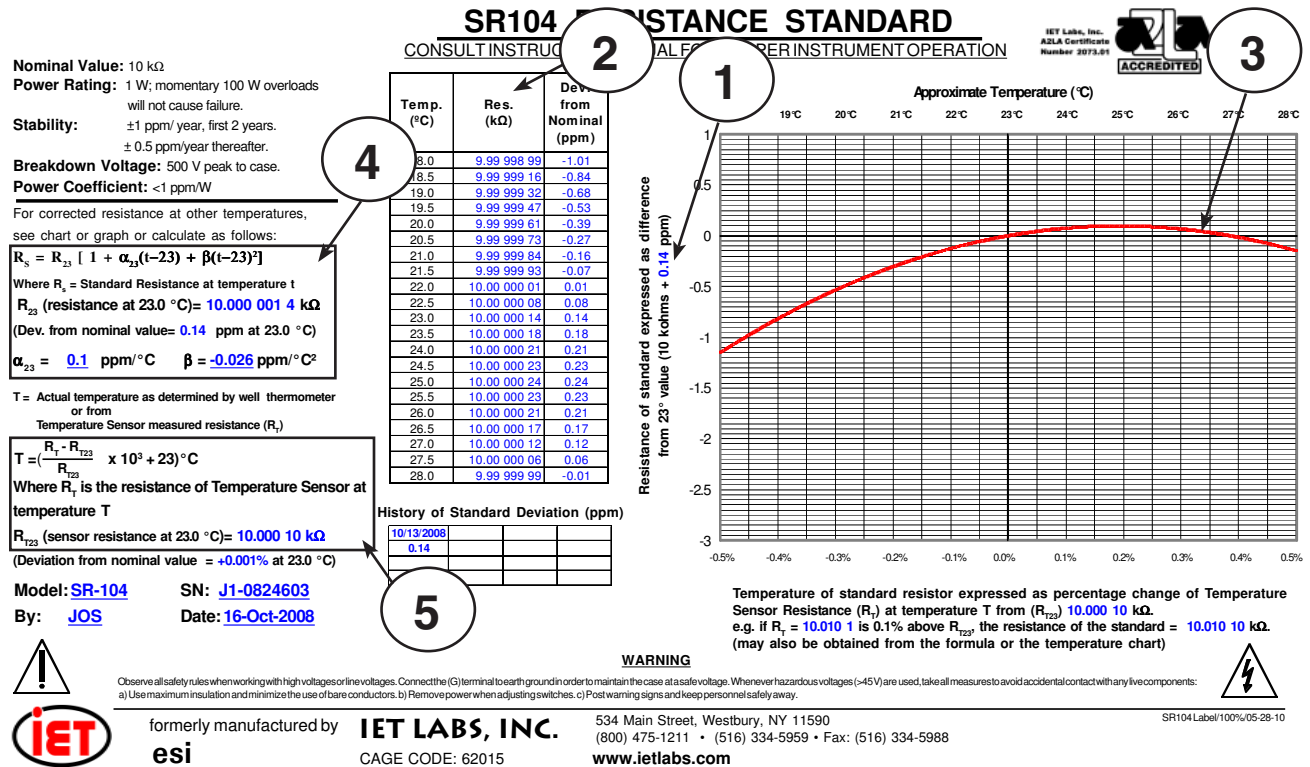

Figure 3-1: Sample temperature correction chart
The temperature correction chart (in the lid of the unit) can be used to correct the resistance of the Transportable Standard Resistor for temperature effects. Figure 3-1 is a sample of the calibration data and correction chart attached to the unit.
The precise 23°C value of the standard is given in location (1). In the example shown in Figure 3-1, the standard resistance is:
**Note:** In the following discussion and in Figure 3-1,
Using all three methods in the sample shown in Figure 3-1, a temperature **t** of 22°C would produce the result of: